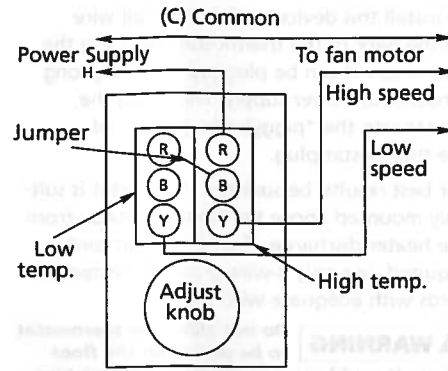
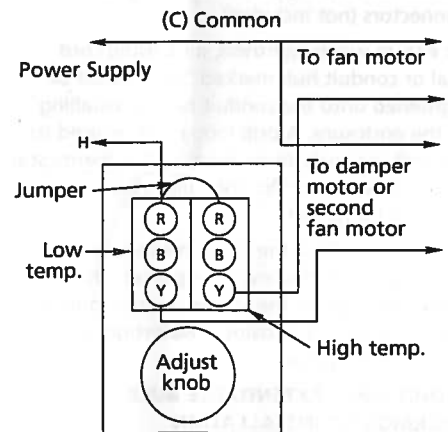

Figure 6 - Two-stage SPDT/SPDT Thermostats in Control of a Two-speed Ventilating Fan
Figure 7 - Two-stage SPDT/SPDT Thermostats in Control of a Single-speed Ventilating Fan and Volume Increase Damper Motor
Figure 6 shows wiring for controlling a two-speed ventilating fan. When the control element reaches the knob settings, the low temperature switch starts the fan on low speed. If the ambient temperature continues to rise, the high temperature switch supplies power to the high-speed motor winding while disconnecting the low-speed winding.
Figure 7 shows a typical SPDT/SPDT hook-up for a two-volume fan application. The damper motor will be energized when the temperature reaches the knob setting. If the temperature continues to rise, the fan motor will be energized by the high temperature switch.
3. Thermostats with SPDT/SPDT 2 Stage switching: If connection is similar to Figure 6, fan should start at approximately ambient temperature and should change to high speed, as the knob is turned counterclockwise to a lower temperature setting. If wiring is similar to Figure 7, the damper should open as the knob is turned counterclockwise (to lower temperature setting). The devices should act in reverse sequence when the knob is turned clockwise.